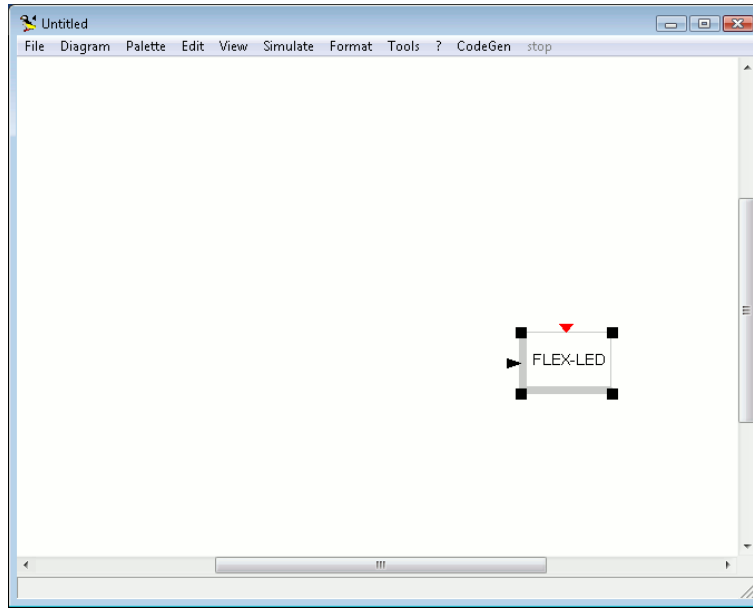

Figure 5.6: The LED block is dropped in the design window.
7. Single click on the **FLEX-LED** block. The window selection moves to the Scicos window. The mouse now becomes a white rectangle of the dimension of the LED block. Single click somewhere in the white part of the window. A LED block is dropped in the diagram, like in Figure 5.6.